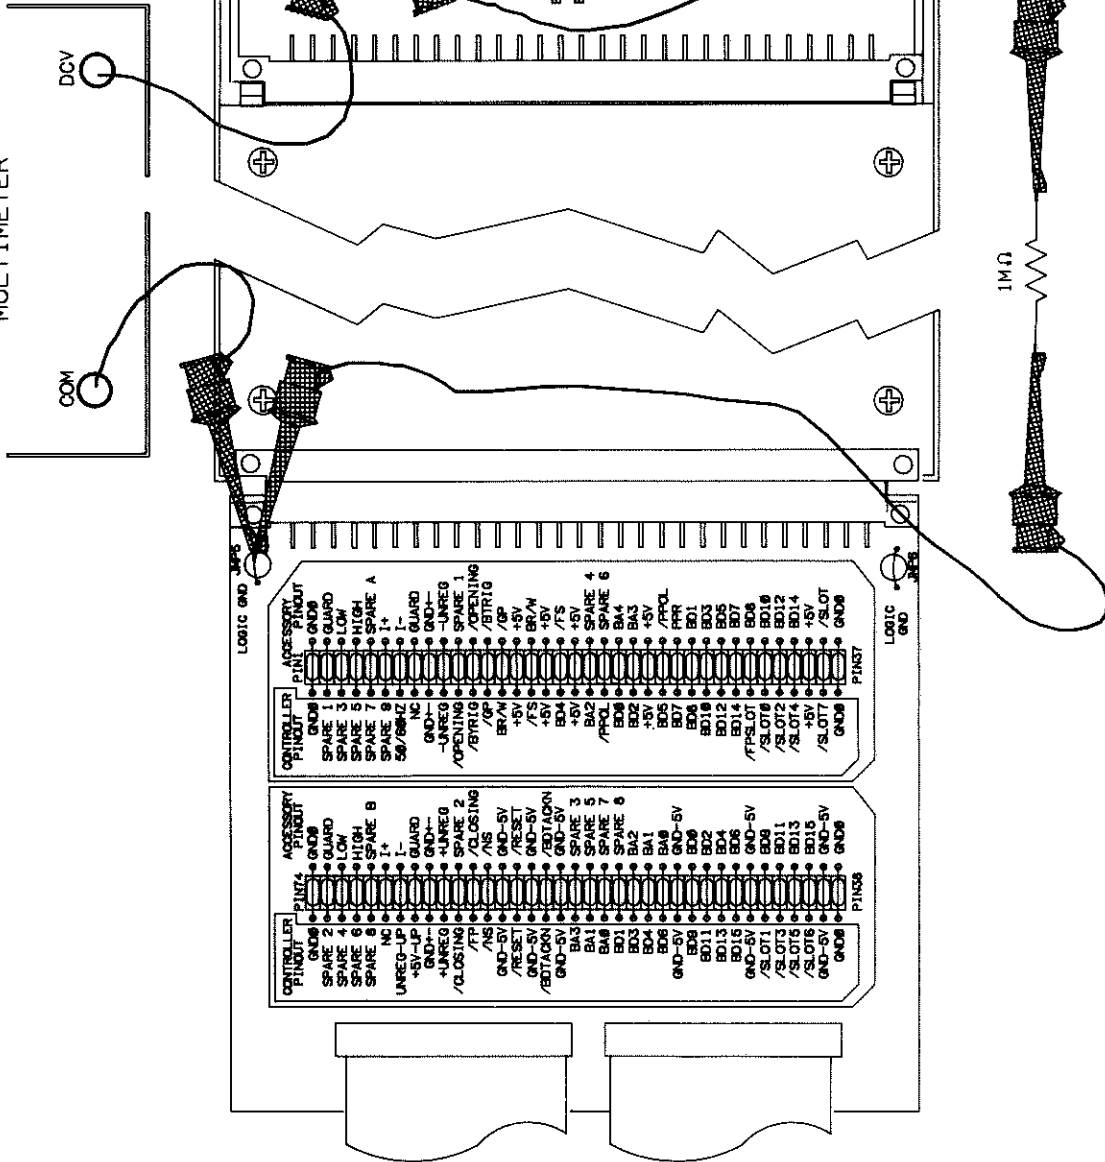

Figure 8-33 HP 44705A/H HIGH Lines Injected Current
2. Connect the multimeter DCV lead to the shorted HIGH test point of the test fixture. Connect the multimeter COM lead to the LOGIC GND connection on the service module as shown in Figure 8-33.